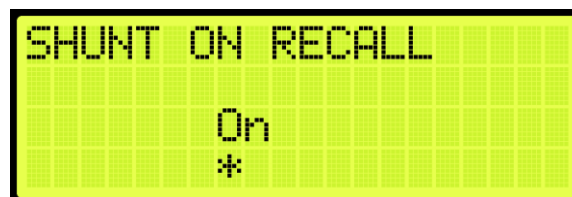

Figure 613: SHUNT ON RECALL Menu
5. From the SHUNT ON RECALL menu, scroll and select On (See Figure 613).